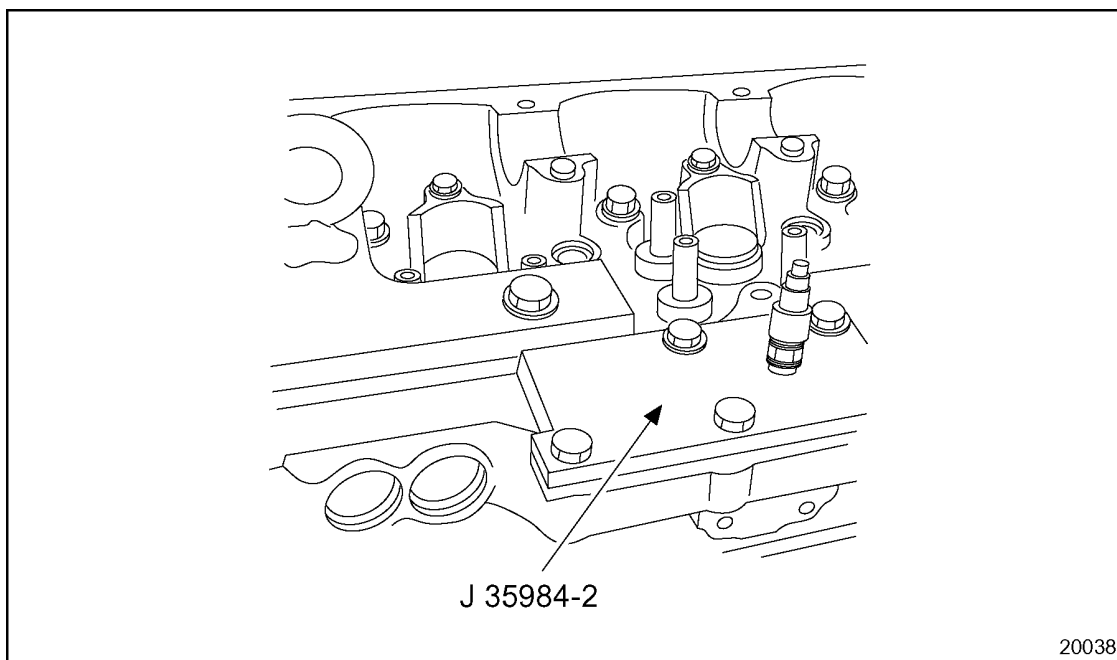

Figure 1-36 Thermostat Opening Cover Plate Installation
3. Install the thermostat opening cover plate, J 35984-2 and gasket to the cylinder head using the bolts provided with the cover plate. See Figure 1-36.